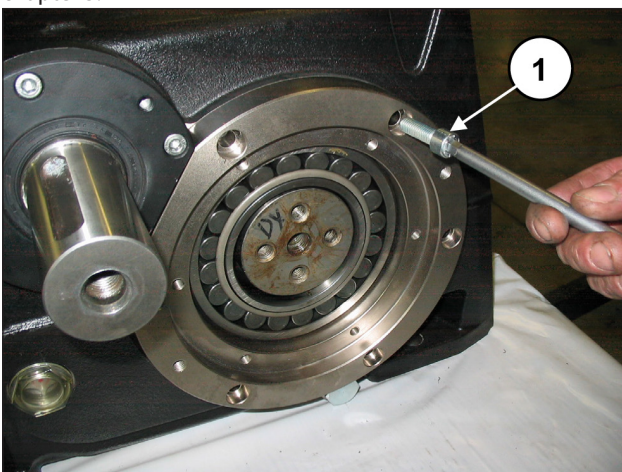

Fig. 74
Fasten the bearing support covers with 6+6 x M10x30 screws (pos. ①, Fig. 74).